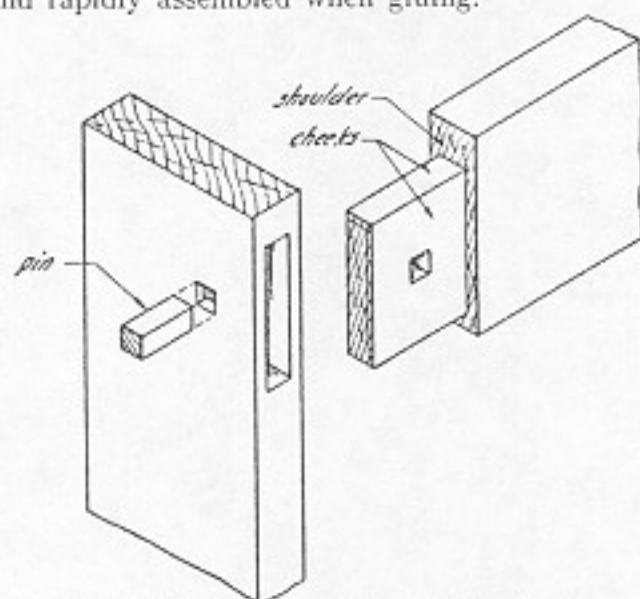

Fig. 251. Blind mortise-and-tenon joint with pin.
19. A blind mortise-and-tenon joint often is strengthened by driving a pin through it (Fig. 251). When the appearance is unimportant this